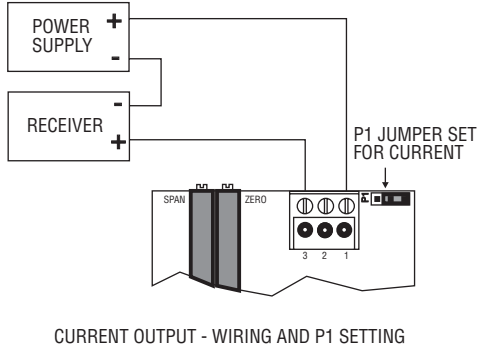
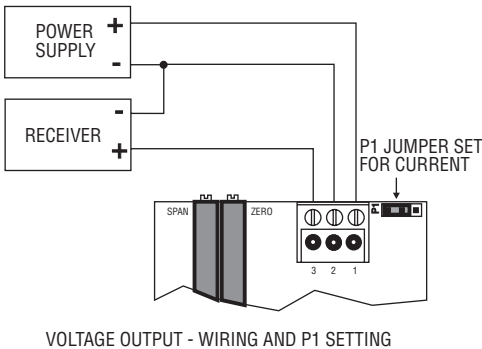

Figure 1
Figure 2
Use maximum 18 AWG wire for wiring terminals. Refer to Figure 1 or Figure 2 for wiring information. The terminal block is removable for ease of installation.
Before wiring for 4 to 20 mA output, check that the jumper P1 is connected so that the jumper is on the two pins furthest from the terminal block as shown in figure 1. 4 to 20 mA output may be powered by 18 to 28 VDC. The transmitter is reverse polarity protected. The load must not exceed the maximum loop resistance, R_{max} , listed on the next page. The load and power supply should be connected according to Figure 1.
Before wiring for 2 to 10 VDC output, check that the jumper P1 is connected so that the jumper is on the two pins closest to the terminal block as shown in figure 2. 2 to 10 VDC output may be powered by 18 to 28 VAC or VDC. The transmitter is reverse polarity protected. The load must be greater than 50 K Ω . The load and power supply should be connected according to Figure 2.
7. Proceed with the wiring according to diagrams in figures 1 and 2.
3. Replace the receiver shown in figure 1 or 2 with a multimeter and restore the power to the transmitter.
11. Replace the multimeter with the receiver as shown in figures 1 and 2 and restore the power to the transmitter.